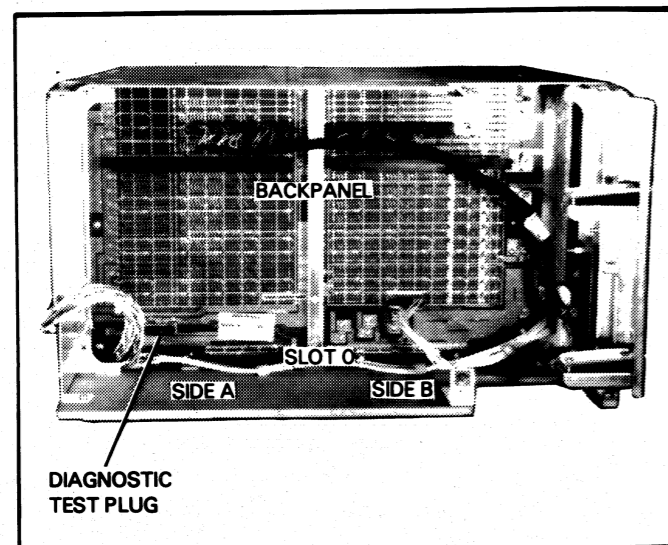

Figure 4.3 Diagnostic Test Plug
- c. Make sure the diagnostic test plug is inserted with the "RUN" label up (see Figure 4.3). If it is not, remove the plug, turn it over, and reinsert it with the "RUN" side up.